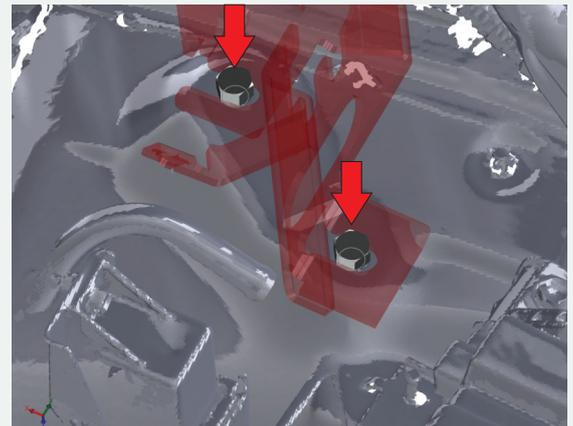

FIGURE 4C
- 10 Proceed to fully tighten the OEM M8 bolts shown in FIG. 4C.